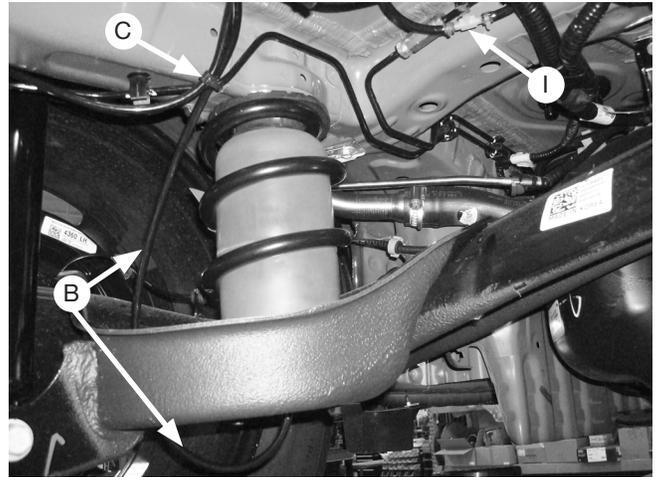

Fig. 7
- Route the air line (B) through the lower control arm and up to the crossmember on the underside of the unibody. Leave sufficient slack for suspension articulation. Install a tee (I) (if single fill is desired) or route the air lines along the brake lines under the crossmember (Fig. 7) to the area you have chosen for the Schrader valves (J). Secure air lines with zip ties (C) provided. Keep air line away from any heat source. Proceed to the air line installation instructions.